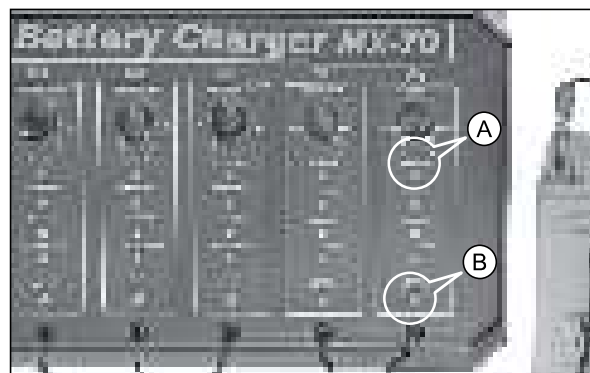

Fig. 5.97
- Switch on the 'MAINS ON-OFF' switch (A) and ensure that the 'MAINS-ON' LED indicator (B) is glowing. (Fig. 5.97) If this indicator is not glowing, then check the main fuse of the charger and replace the fuse if required.